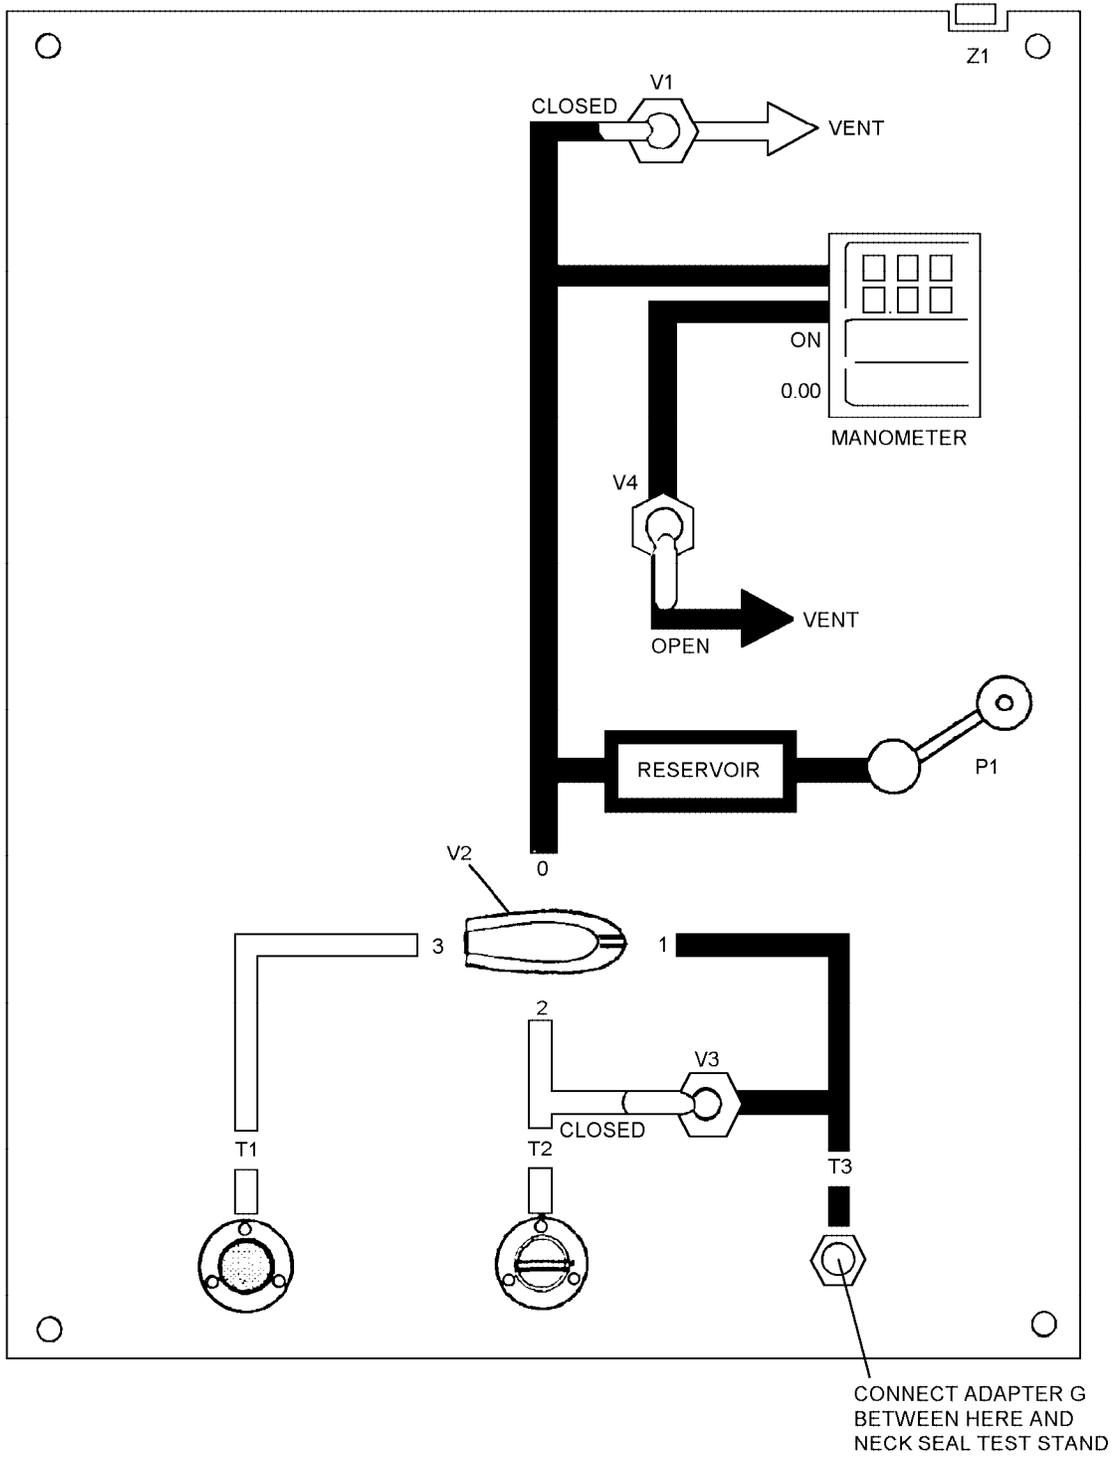

Figure 3-42. Test Panel Configuration - Compensated Exhalation Valve - Functional Test
4. Connect adapter G to T3 and neck seal test stand (figure 3-42).